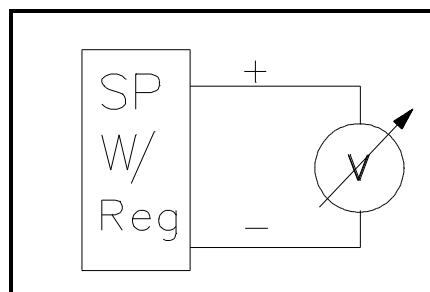

Figure 2 With Load Test -V
- Measure Voltage - Volt meter is connected as shown in Figure 2.